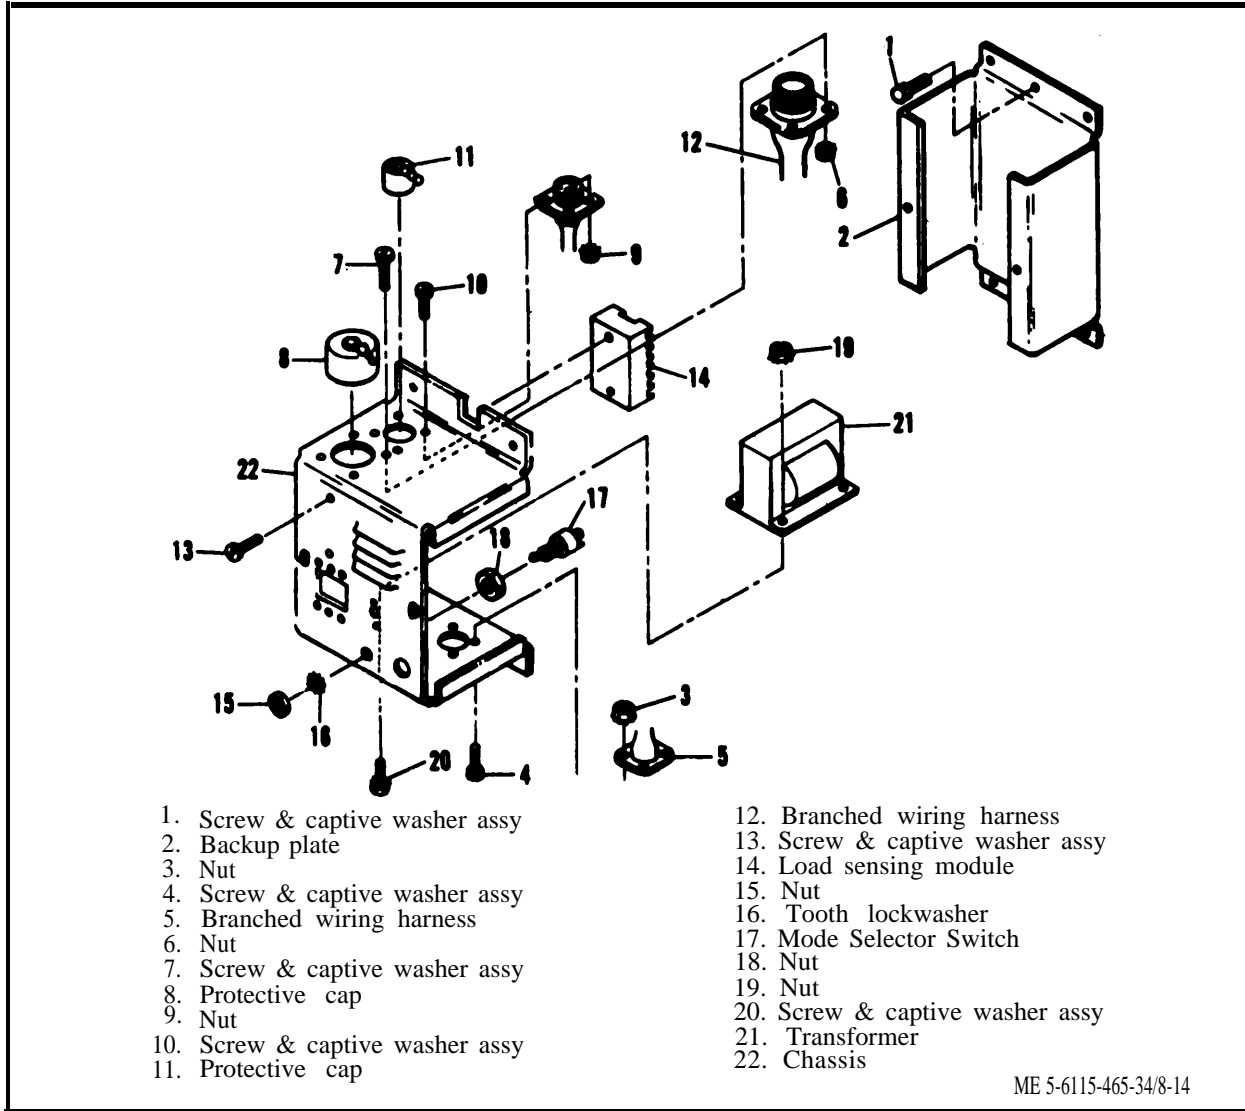

Figure 8-14. Load Bank Control Box Assembly, Exploded View
(1) Remove load selector switch, circuit breaker, and indicator light as instructed in the Operator and Organizational Maintenance Manual.
(2) Complete disassembly of control box assembly by following the ascending sequence of index numbers (1 through 22) assigned to figure 8-14.